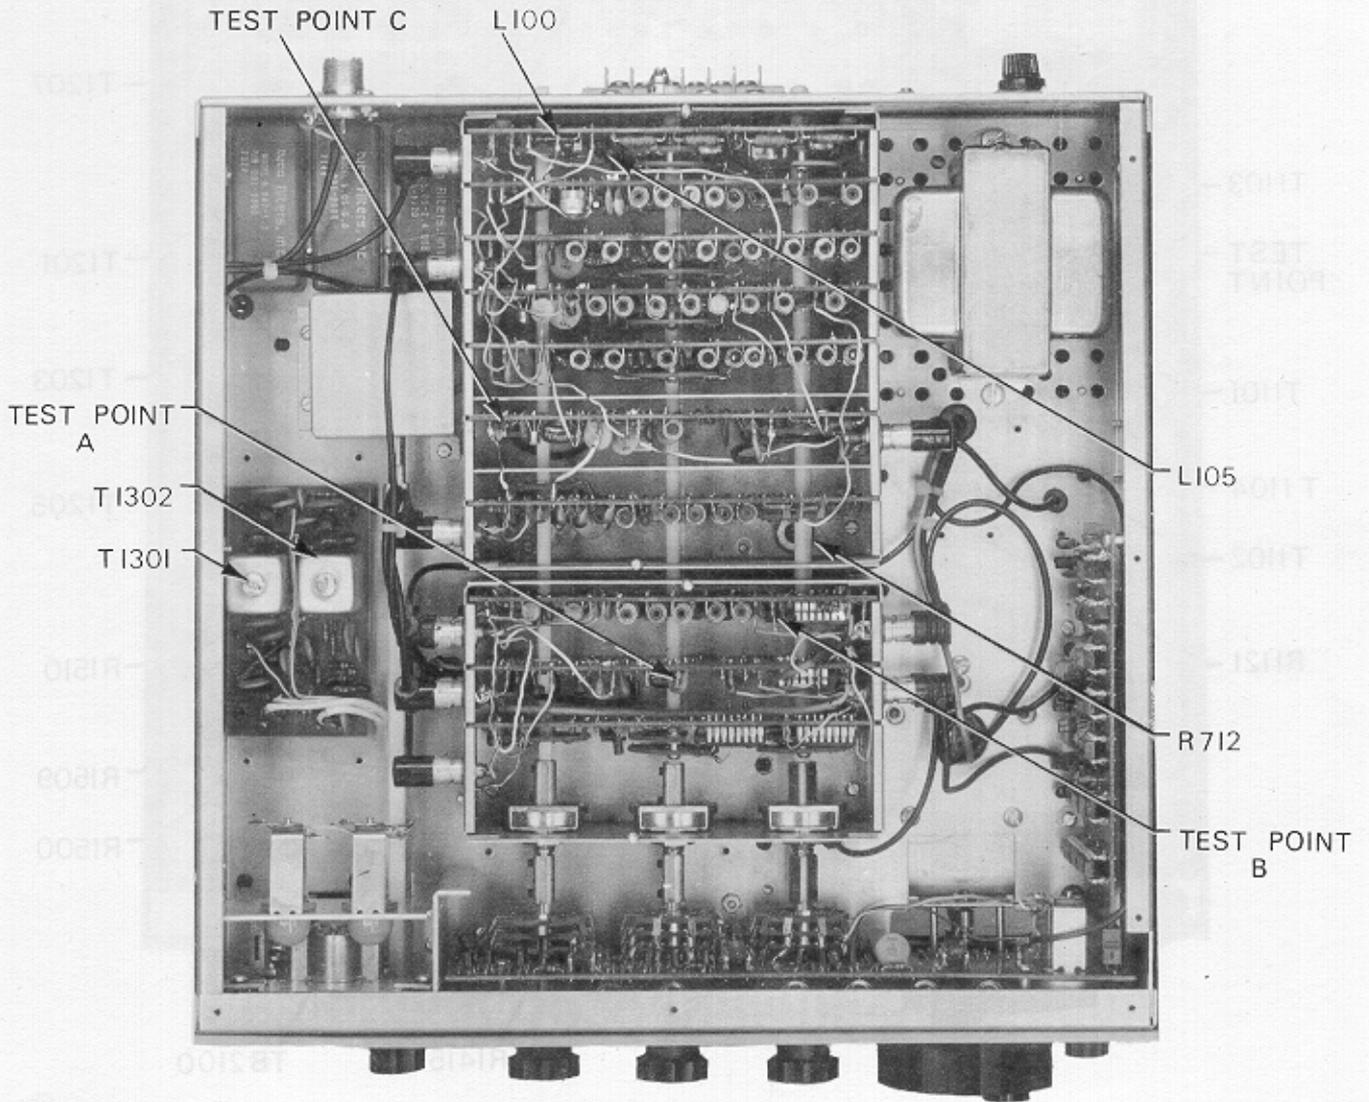

Figure 5-5. Top View with Covers Removed
- b. Refer to figure 5-5. Adjust the BFO transformer T1301 on the outside of the board for maximum DC voltage. This tunes the detector for the normal SSB channel.
- a. Refer to figure 5-5. Set the 0.1 MHz frequency switch to display 0.9 and adjust the variable resistor R712 on the VCO board for 9.5 volts as measured at the ring of the variable resistor.
- h. Place a scope probe on test point A shown in figure 5-5 on the Control Line board and refer to the sawtooth waveform shown in the lower right hand corner of the Synthesizer schematic figure 5-34. A small horizontal step should appear approximately 1/3 of the way up on the leading edge of every other cycle.
- Refer to figure 5-5. Attach an RF probe to test point B on the Balanced Mixer card.